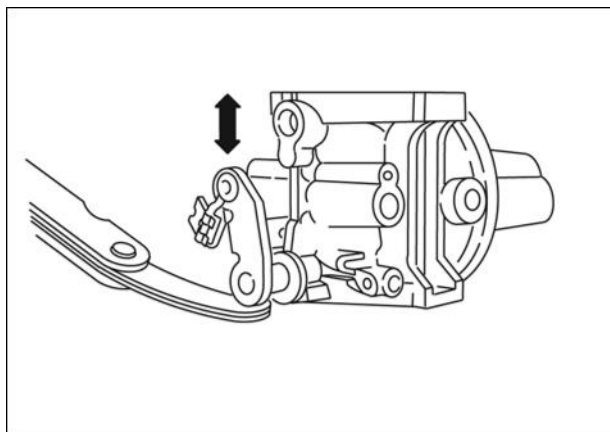

Figure 13
1. Lay carburetor on flat surface and check throttle and choke shaft clearance (Figure 13).